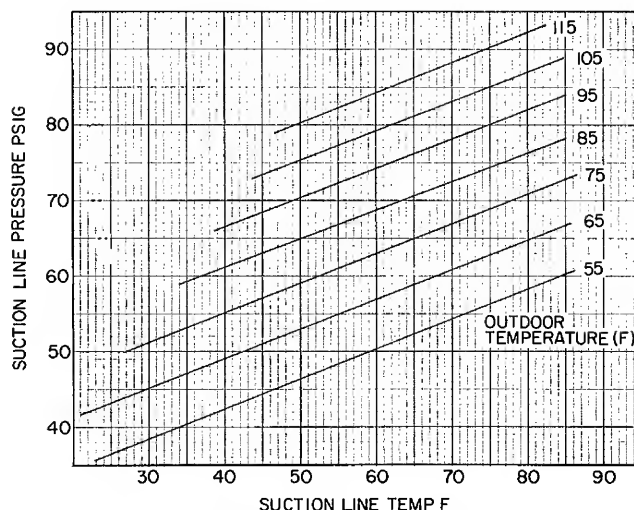

Fig. 8 — Charging Chart — 48EL, EM006
**LOW CHARGE** — Using charging chart (Fig. 8), add refrigerant until the conditions of the chart are met. Charts are based on charging the units to the correct superheat for the various operating conditions. An accurate pressure gage and temperature sensing device are required. Connect the pressure gage to the service port on the suction line. Mount the temperature sensing device on the suction line and insulate it so that outdoor ambient temperature does not affect the reading. Indoor air cfm must be within the normal operating range of the unit.
If Chargemaster® charging device is used, temperature and pressure readings must be accomplished using charging chart, Fig. 8.